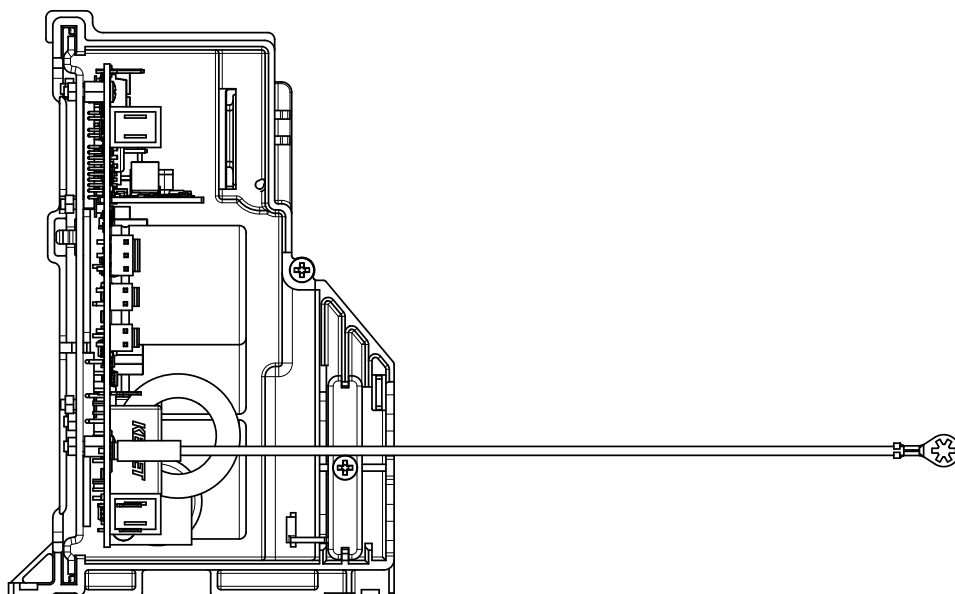

Figure 3.1: Cables arrangement
2. Take care to positioning the EMI earth (when applied) and Safety earth cables with the protecting tape beneath the cord relief as shown in Figure 3.1.